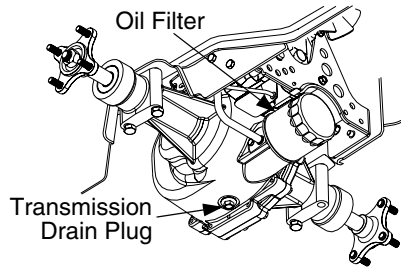

Figure 18
- Clean the area around the transmission drain plug to prevent debris from entering the transmission case. Remove the drain plug and allow the transmission oil to drain into a clean container having a capacity of more than 5 quarts. Reinstall the drain plug. Refer to Figure 18.